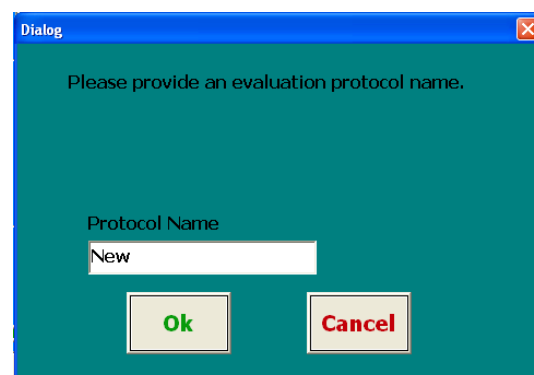

Figure 4f
- Enter a unique template name when prompted and click “OK” in the dialog box to return to *Evaluation Setup* (Figure 4f).
- c. Enter a unique name for the template you are creating and click “OK” in the dialog box (Figure 4f).